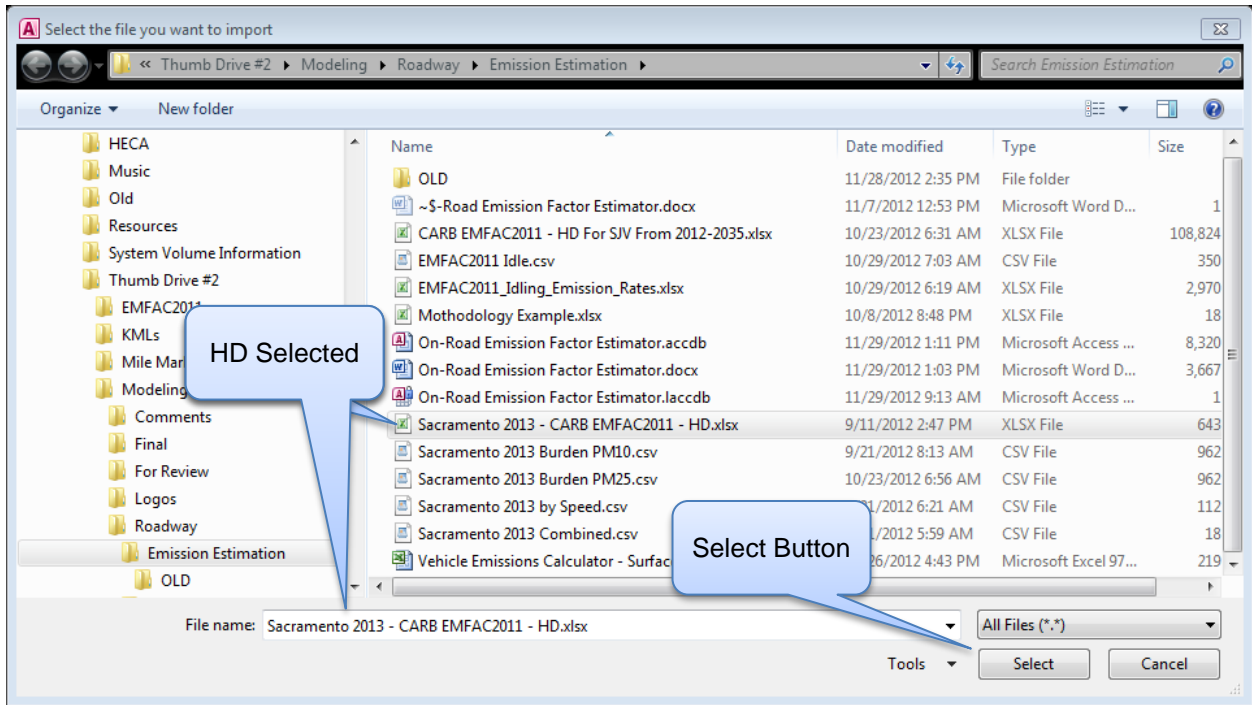

Figure 5-13 Select HD File
- From the file dialog screen select the file to import and click the “Select” button, see Figure 5-13. The full path of the file selected will be placed in the “File Name” field.